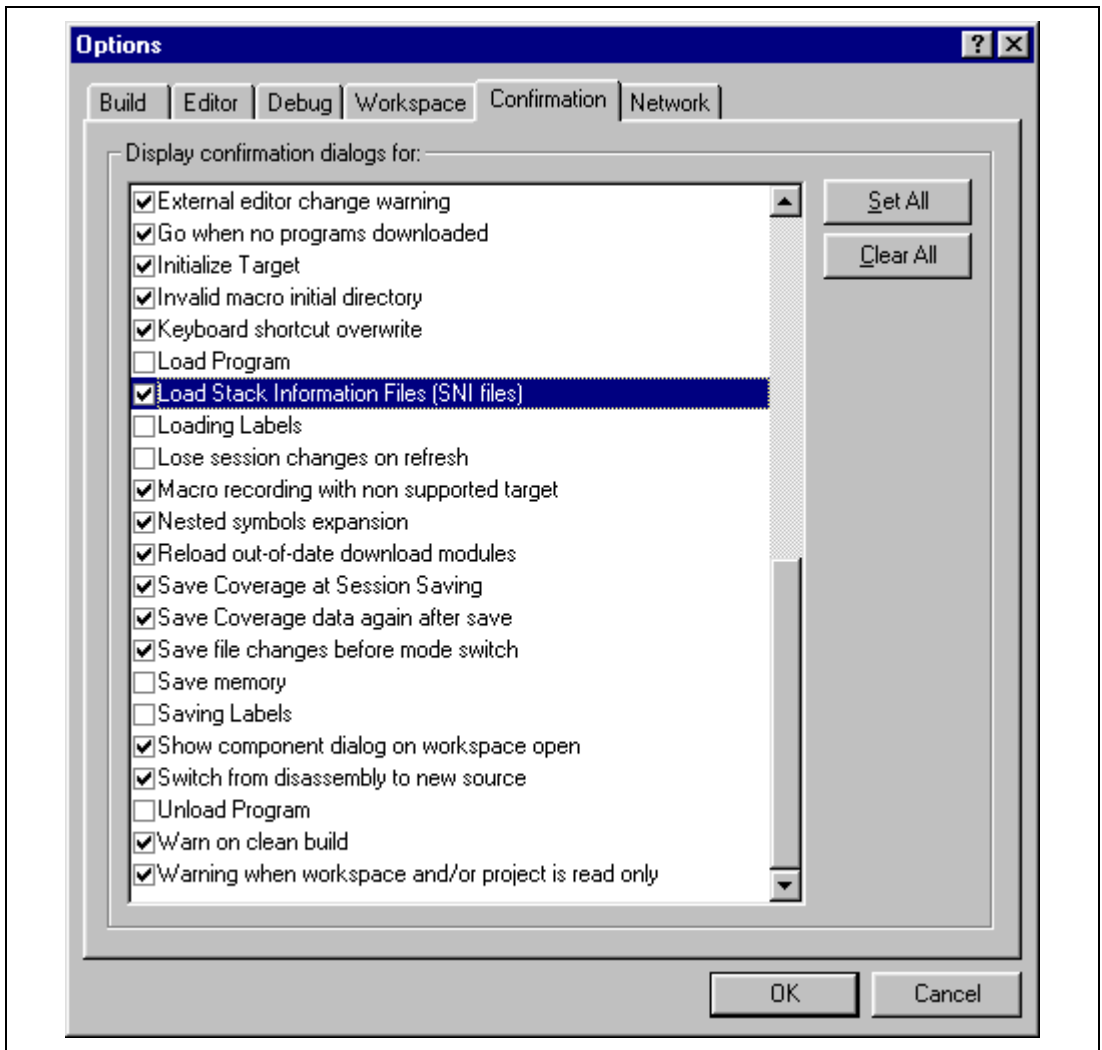

Figure 3.29 Options Dialog Box
- The [Load Stack Information Files (SNI files)] check box is checked in the [Confirmation] tab of the [Options] dialog box (figure 3.29) that can be opened by choosing [Setup -> Options...] from the main menu.